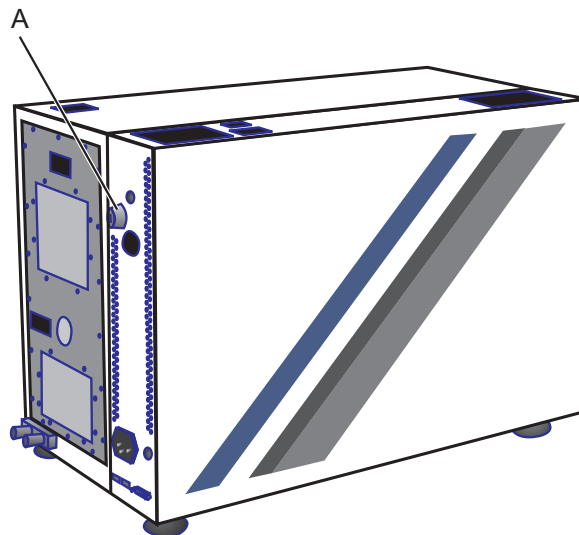

Figure 13: Key switch
- Key-switch controlled laser operation (see Figure 13, A).